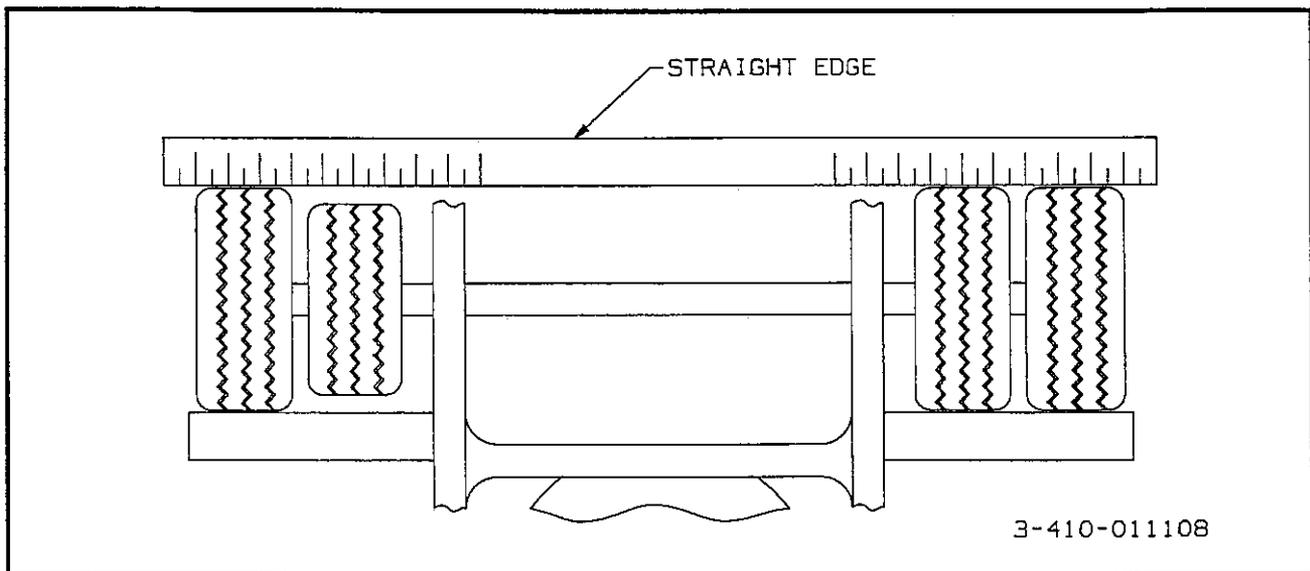

Figure 6-5 Straight Edge Method
a. Jack trailer up until the wheels are off of the ground. Hold a straight edge against the tires of both ends of an axle. A gap at one tire indicates a smaller tire. A maximum of 1/8" gap is allowed (See Figure 6-5).